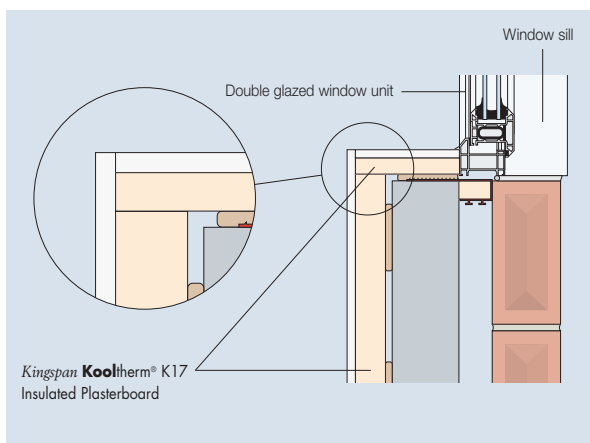

Figure 10 – Insulated reveal and external corner
- The use of a thinner sheet of **Kingspan Kooltherm® K17 Insulated Plasterboard** at reveals may be necessary (see Figure 10).